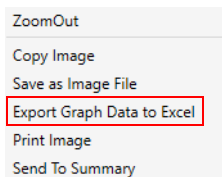

Figure 83 Option menu
- 1 Right-click anywhere on a chart or **Plate Map** to display an option menu and select **Export Graph Data to Excel**. (See Figure 83.)